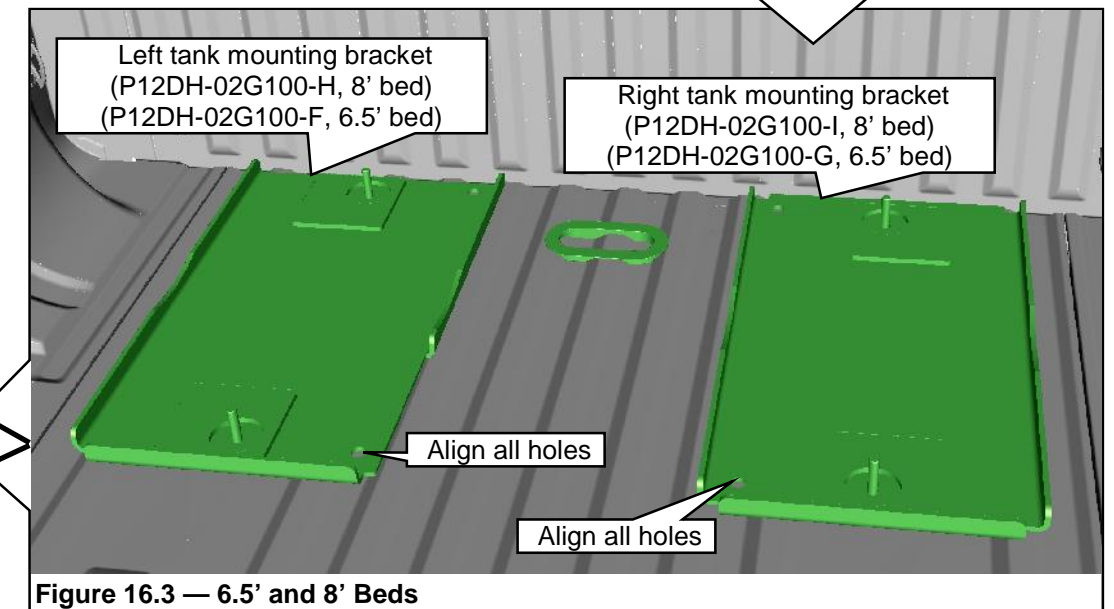

Figure 16.3 — 6.5' and 8' Beds
- Install the left and right tank mounting brackets into the bed. Make sure that the tank mounting brackets are firmly seated against the bed and that the eight holes in the brackets align with the eight holes in the bed. **Figure 16.3.**